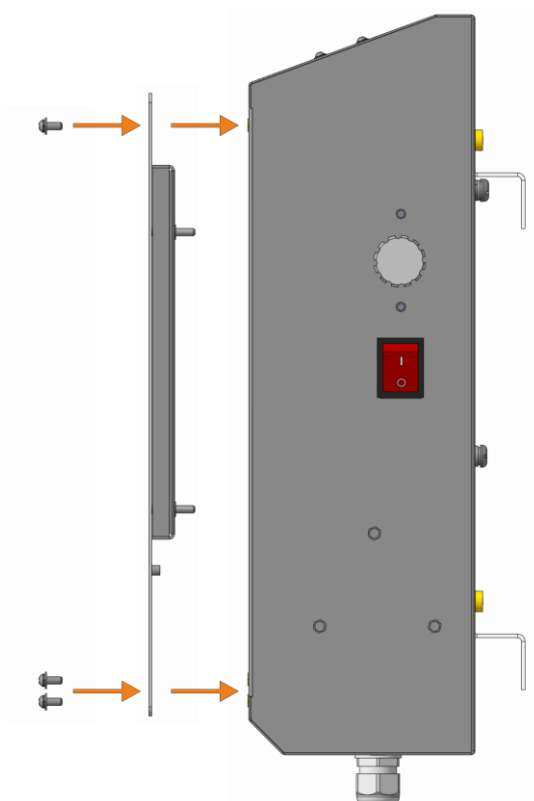

Figure 10 – Install the front panel
- 5) install the front panel (see Figure 10).